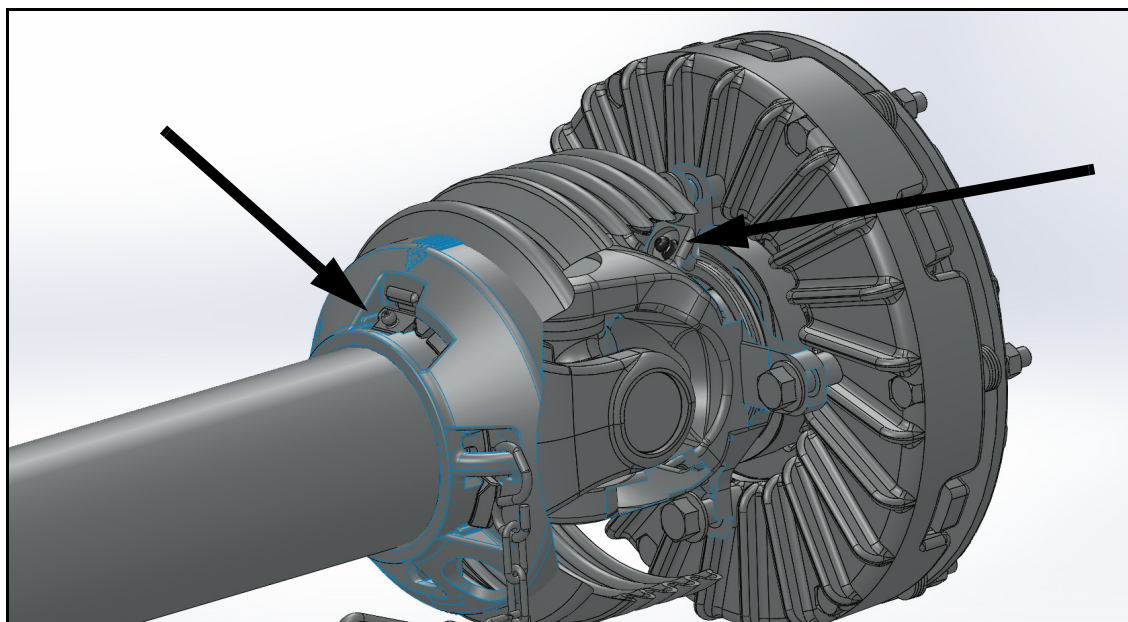

Figure 5.3 PTO Safety Shield and Overrunning Clutch
2. Lubricate the 2 safety shields on the PTO (one at each end of the shaft) (see Figure 5.3). This is important to ensure the safe operation of the shield components rotating freely over the PTO shaft.
3. Lubricate the 1 grease zerk on the overrunning clutch on the GrainVac end of the PTO shaft (see Figure 5.3).